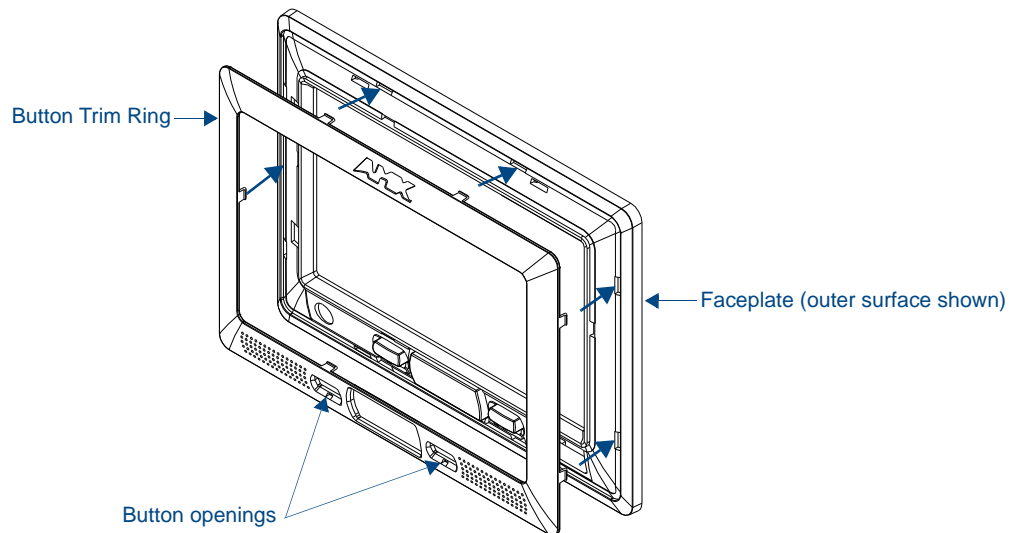

FIG. 10 Inserting the Button Trim Ring
8. Gently insert the Button Trim Ring latches into their corresponding openings on the outer surface of the internal Faceplate (FIG. 10).